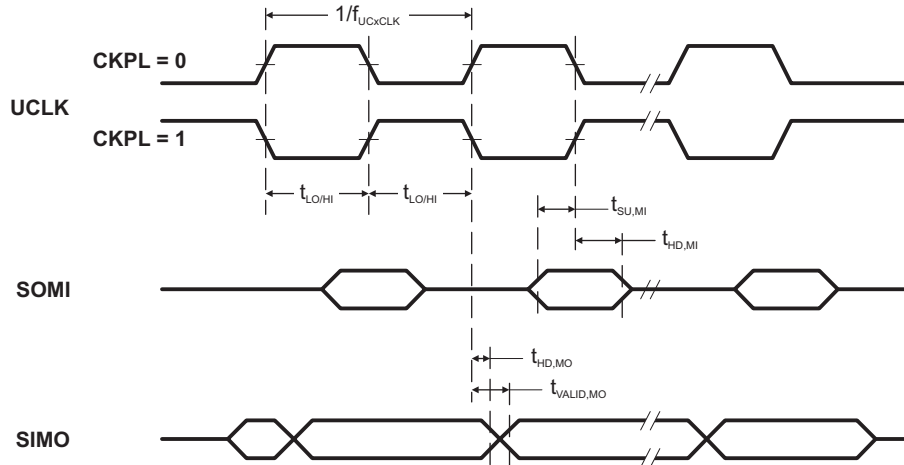
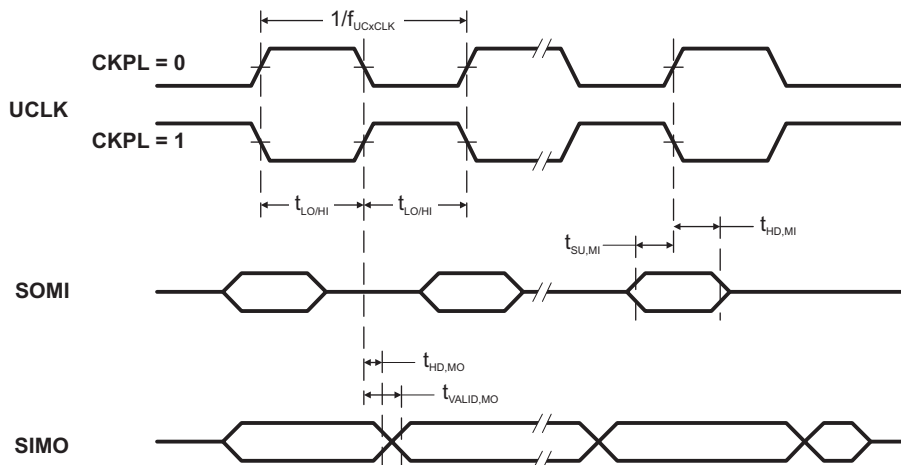

Figure 5-11. SPI Master Mode, CKPH = 0
Figure 5-12. SPI Master Mode, CKPH = 1
(see Note (1), Figure 5-11 and Figure 5-12)
- (1) fUCxCLK = 1/2tLO/Hi with tLO/Hi ≥ max(tVALID,MO(USCI) + tSU,SI(Slave), tSU,MI(USCI) + tVALID,SO(Slave)). For the slave parameters tSU,SI(Slave) and tVALID,SO(Slave), see the SPI parameters of the attached slave.
- (2) Specifies the time to drive the next valid data to the SIMO output after the output changing UCLK clock edge. See the timing diagrams in Figure 5-11 and Figure 5-12.
- (3) Specifies how long data on the SIMO output is valid after the output changing UCLK clock edge. Negative values indicate that the data on the SIMO output can become invalid before the output changing clock edge observed on UCLK. See the timing diagrams in Figure 5-11 and Figure 5-12.
- (2) Specifies the time to drive the next valid data to the SOMI output after the output changing UCLK clock edge. See the timing diagrams in Figure 5-11 and Figure 5-12.
- (3) Specifies how long data on the SOMI output is valid after the output changing UCLK clock edge. See the timing diagrams in Figure 5-11 and Figure 5-12.